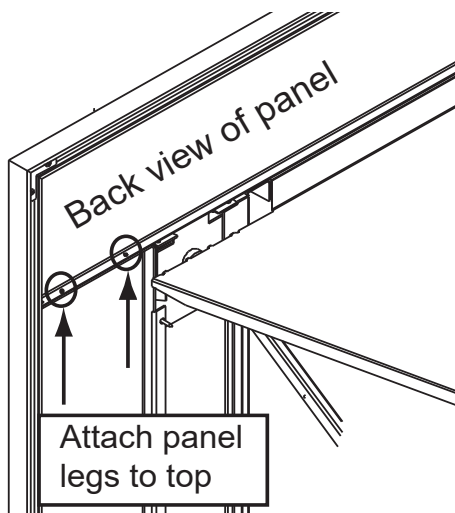

Figure 22.2
2. Attach the panel legs to the top panel using a Phillips head screwdriver. There are 2 screws for each leg (**Figure 22.2**).